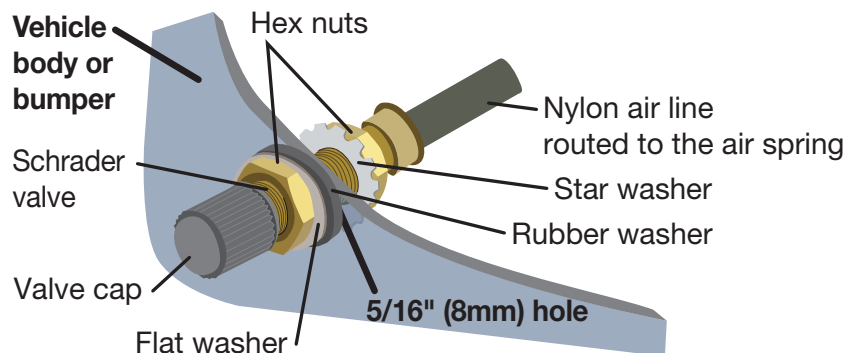

Fig. 30
4. Install the Schrader valve in the chosen location (Fig. 30).